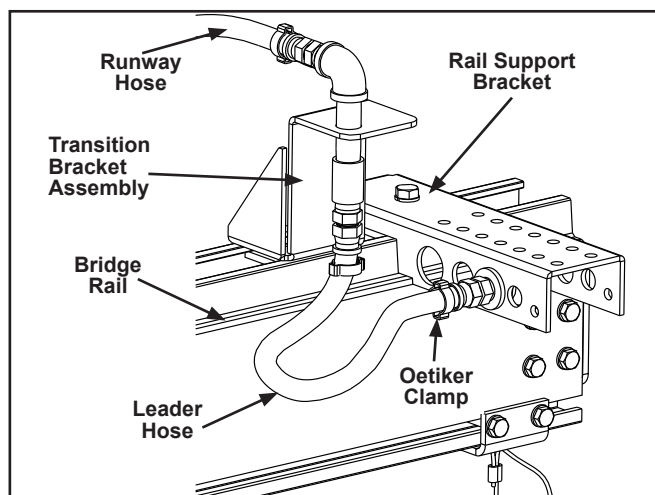

Figure 3-111
- Step 1. Attach rail support bracket by loosening cage nut and sliding rail support bracket into rail top channel. Position bracket approximately six (6) in (152 mm) from end of bridge rail. See Figure 3-111.
- Step 8. Reinstall U-bolts trapping hose on trolley, alternating hose loops from inside to outside. Verify hose loops hang down from trolley with a length of approximately three (3) ft (914 mm). Refer to this manual section "Hose Trolley" page 3-30.